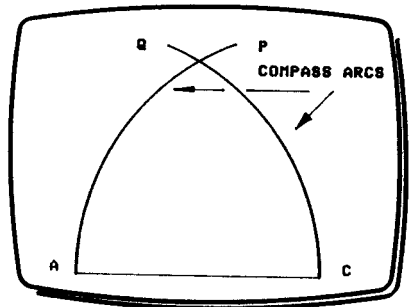

Fig 2
- 4 Select Compass Arc. Make the radius of the arc coincident with (AC) and press and release L. Then move XY to describe the arc (CQ), and press and release T to confirm (Fig 2).
- 5 Select straight line, then place the origin at (A).
- 6 Select Compass Arc, then draw the arc (AP) in Fig 2.